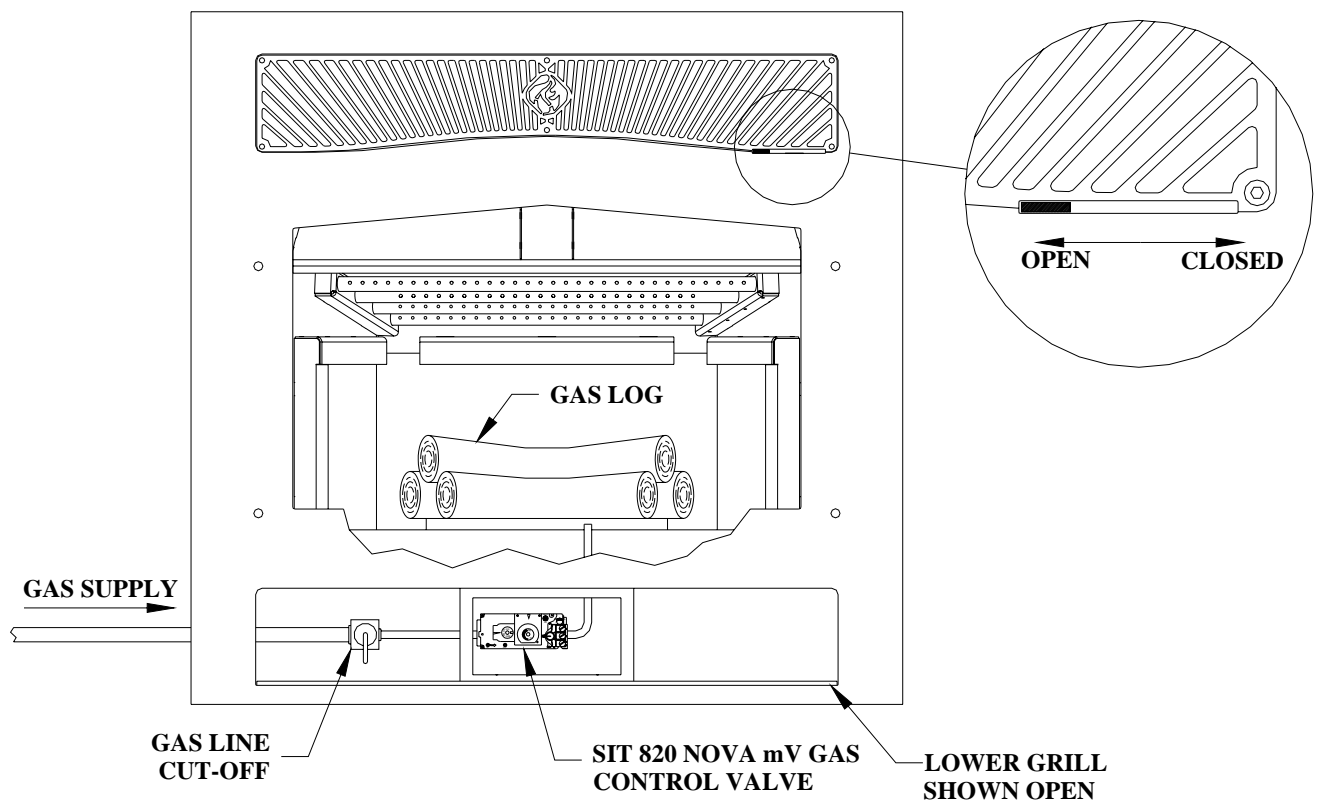

FIGURE 2: INGLENOOK GAS LINE INSTALLATION
- ⚠ Maintain a minimum permanent free flue opening of 50.2 square inches provided by the Inglebrook fireplace chimney and chimney damper system to vent flue gasses. Maintain this permanent free flue opening by keeping the damper in the fully open position during gas log use. See FIGURE 2.
- ⚠ The Inglebrook fireplace damper is to remain the open position, see FIGURE 2, at all times during the use of the Inglebrook gas log set. Attach a damper clamp as shown in this manual.
Installation of the Inglenook fireplace and the Inglenook gas log kit must conform to National Standards, NFPA 54 (natural gas) or NFPA 58 (propane). The installation of gas line and leak testing must conform to the National Fuel Gas Code ANSI Z223.1 (United States) and CAN/CGA B-149 (Canada) Installation Code and all local codes and gas supplier restrictions. The Inglenook fireplace has been tested and approved for installation using a (7/8" O.D. / 1/2" I.D.) Model #1650 N Dormont Flex Connector supplied with the unit. A licensed plumber will be required to install a gas line and a supply cut-off valve to the Inglenook fireplace. Purge air from the gas supply line before connection is made to the Inglenook fireplace. The shut-off connection between the gas line and the Inglenook gas logs will be installed similar to that shown in FIGURE 2. Do not install gas supply lines in chimneys, gas vents, dumb waiters, elevator shafts, clothes chutes, or other air ducts. Gas piping should be sloped 1/4" for every 12 feet of horizontal run. The slope will run from the gas meter down to the Inglenook. Horizontal runs of gas piping require mechanical support every 10 feet by suitable gas pipe hangars or straps. Install drip leg traps where condensate might accumulate in the gas supply line. Verify local code requirements for sediment traps. Traps collect moisture and sediment that might otherwise block the Inglenook gas log orifices or valves. Blockages can prevent the gas log system from operating properly. Depending on the length of gas line installed from the gas company meter to the Inglenook gas control valve, different size piping is required. Check with the local gas company for requirements but NEVER use plastic or galvanized pipe. Always follow the flow direction marked on all gas line connectors. Once installation of the gas line is complete, the Inglenook fireplace damper setting should remain in the fully open position as shown in FIGURE 2.